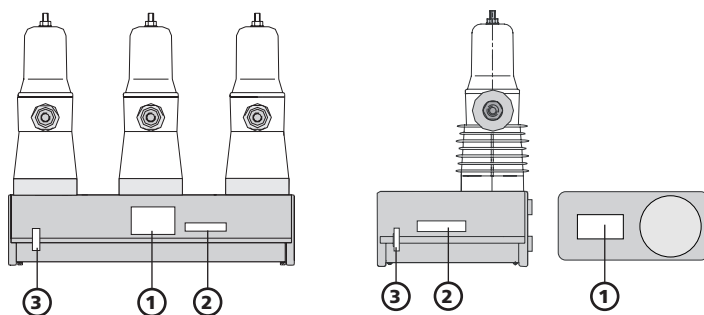
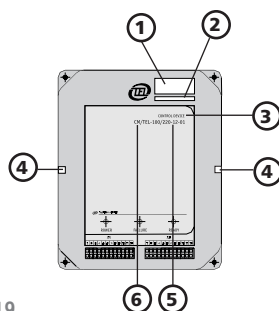

Figure 18
Figure 19
- Damage to the seals (Figure 18, Figure 19)
Arrangement of the labels (Figure 18, Figure 19):